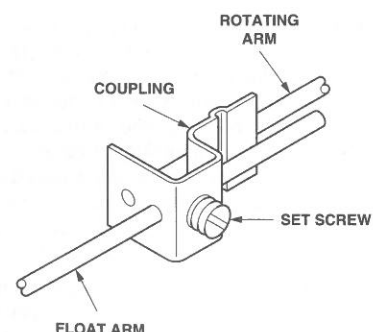

Figure 2
1. Slide the float arm shaft through **BOTH** holes in the rotating arm coupling, then **TIGHTEN THE SET SCREW SECURELY**. (Figure 2). Make sure the end of the float arm **DOES NOT** touch the sensor assembly housing.